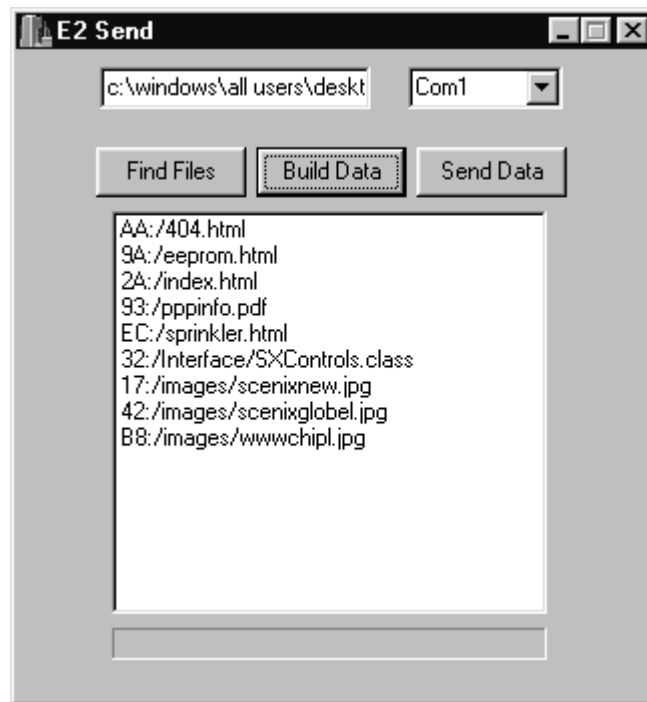

Figure 2-8. E2send Dialog Box
4. In the E2 Send dialog box, set the communications port to Com1 (or whatever port you want to use). See Figure 2-8.